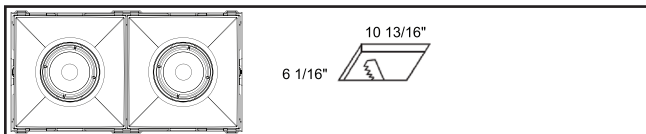

Figure 1.6.
- 2 Light: 10 13/16" X 6 1/16" (Figure 1.6)